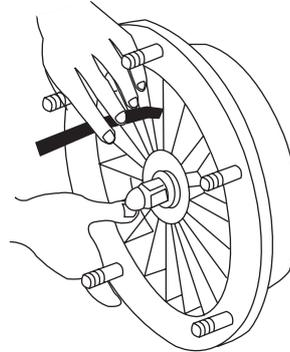

Fig. 31 Impeller-casing clearance
1. Measure the clearance between the impeller and the casing using a leaf feeler gauge (Fig. 31, "Impeller-casing clearance").